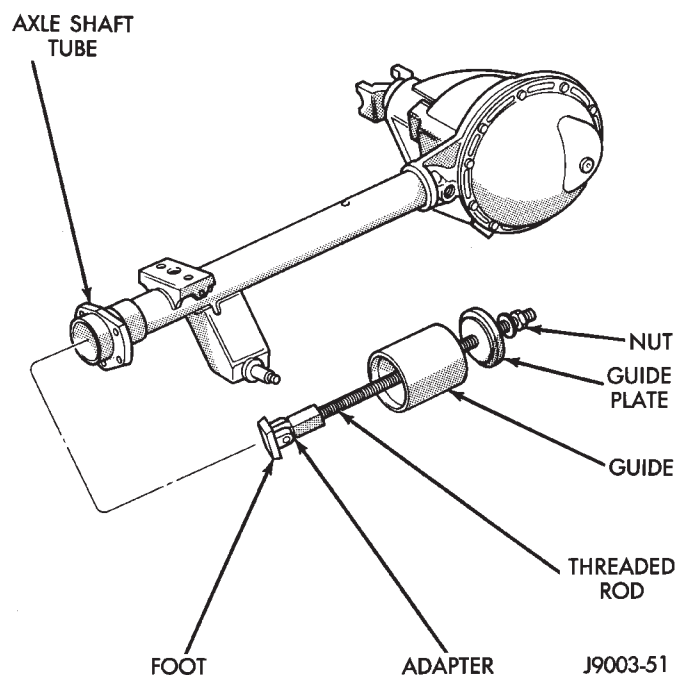

Fig. 12 Axle Shaft Bearing Removal Tool
(3) Remove the axle shaft bearing from the axle tube with Bearing Removal Tool Set 6310, using Adapter Foot 6310-9 (Fig. 12).